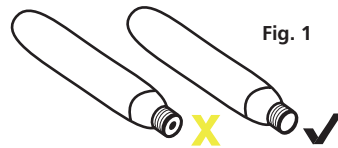

Fig. 1
WE RECOMMEND THAT THE AUTOMATIC CAPSULE IS REPLACED ANNUALLY. ALSO UNSCREW AND INSPECT THE THREADED END OF THE CO2 CYLINDER TO CONFIRM IT IS UNUSED. (SEE FIG 1, PAGE 13)
1. Unscrew and remove the 33g CO2 gas cylinder from the inflator and inspect its piercing cap. If it has been pierced, replace it! (Fig.1).